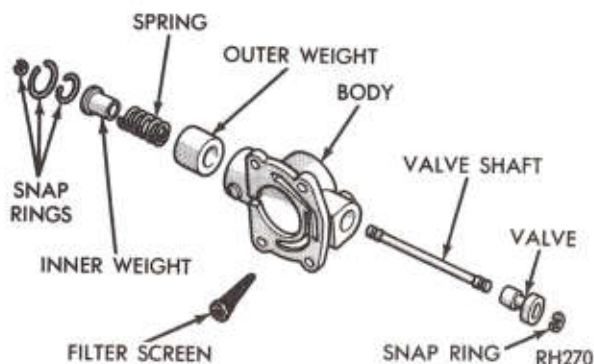

Fig. 11—Governor Assembly
(3) Remove large snap ring from weight end of governor body, lift out governor weight assembly.
(4) Remove snap ring from inside governor weight, remove inner weight and spring from the outer weight. Figure 11 shows a disassembled view of the governor assembly.
(5) Remove snap ring from behind governor body, then slide governor and support assembly off the output shaft. Remove the four bolts and separate governor body and screen from the parking gear.
Figure 11 shows a disassembled view of the governor assembly.